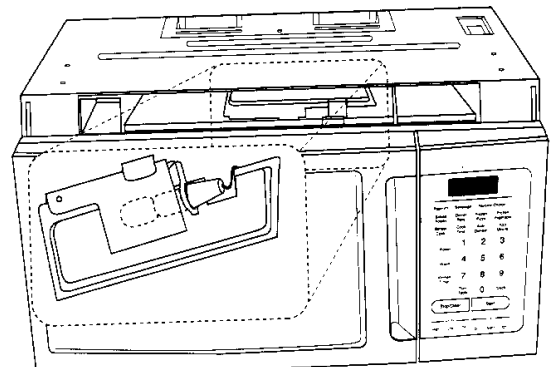

FIGURE 4
4. Remove the screw and pull out the Lamp cover. (See Figure 4.)